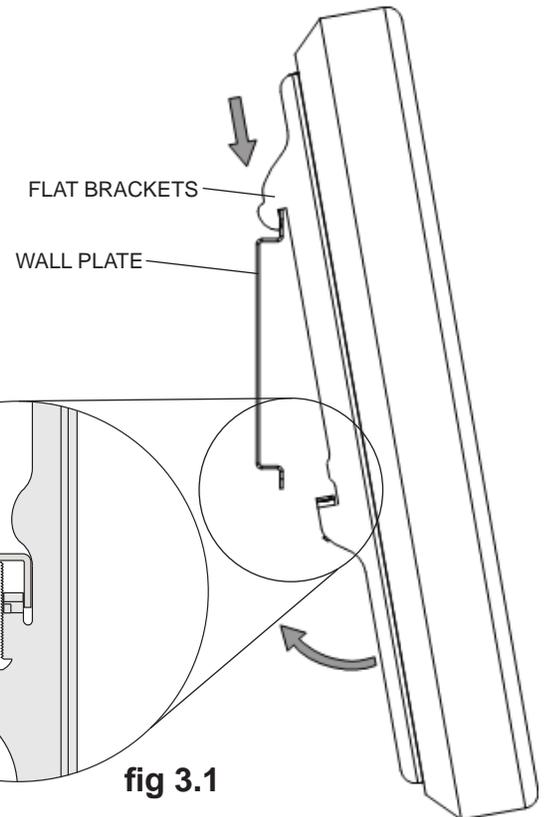

fig 3.1
3 Hook flat brackets onto wall plate (not included). Then slowly swing screen in as shown in figure 3.1. Using 4 mm security allen wrench (I) turn clockwise until screw fits firmly against wall plate to prevent screen from being removed. Screen can be adjusted horizontally by loosening M5 x 25 mm screw (B) on flat brackets.
- 3** To attach screen to arm (not included), insert the puck of adapter plate into the tilt bracket slot as shown in figure 3.1. Attach brake pad assembly as shown in Detail 3 so that the brake pad is snug against the adapter plate. Adjust roll position of adapter plate to level screen then lock puck in place by tightening M5 x 25 mm screw (**B**) on the underside of tilt bracket using 4 mm allen wrench (**I**). Tighten all (M5 x 20 mm, M5 x 25 mm) screws. **NOTE:** To remove screen from arm, remove two M5 x 20 mm screws (**J**) and brake pad. Lift screen out of tilt bracket.